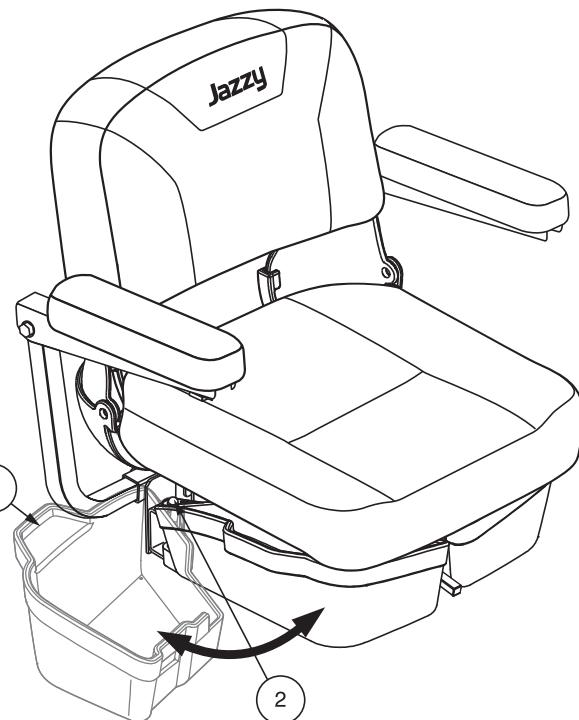

Figure 28. Under-seat Storage
1. Lift up slightly on the latch on the side of the under-seat storage bin (**see figure 28**) and swing the under-seat storage bin out and away from the Travel Scooter.
1. Lift up slightly on the latch on the side of the under-seat storage bin (**see figure 28**) and swing the under-seat storage bin out and away from the travel scooter until it is fully open.
2. If equipped, remove under-seat storage. See **Figure 28**.
7. If equipped, install under-seat storage. **See figure 28.**